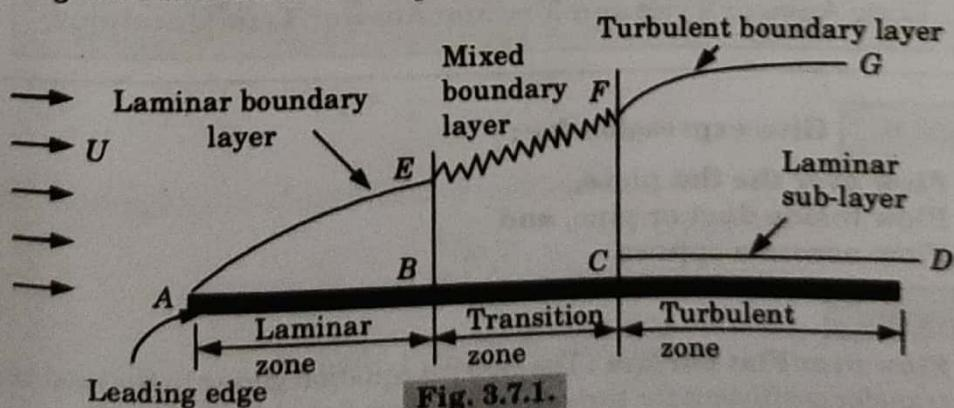

Fig. 3.7.1.
1. Fig. 3.7.1 shows flow over a plate.